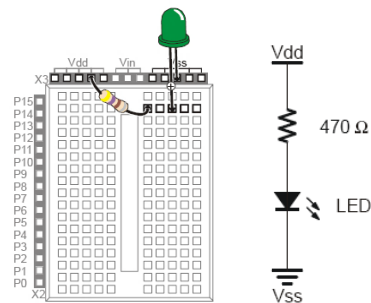

Fig 2.15: LED circuit connection in BOE; circuit schematic diagram.
- Connect one terminal of the 470 Ω resistor to the anode of the LED, i.e any socket in the same row in the same group. And the other terminal to V_{dd} . The schematic diagram of the circuit you have connected is as shown in figure 2.15